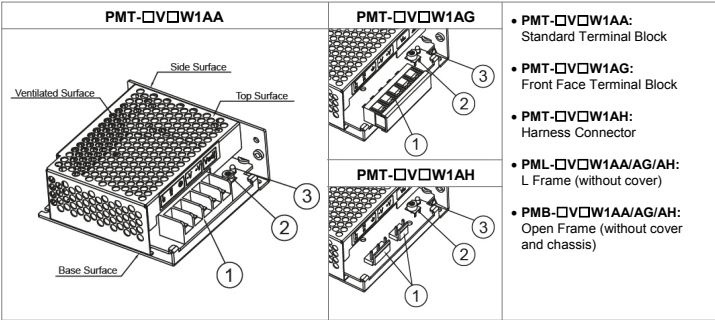

Fig. 1. Device Descriptions
For Open Frame type of installation, ensure the power supply's Protective Earthing (Marked "PE" in Fig. 5) point is connected to the system's Protective Earthing (PE). It is also recommended that the input FG (Fig. 1 location ①) be connected to the system's PE.
Refer to Fig. 1.: